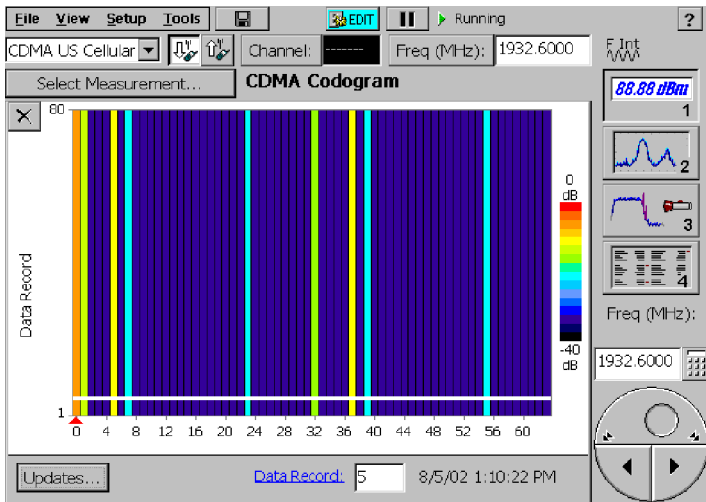

Figure 3-54: cdmaOne Codogram display
5. Tap **Codogram**. See Figure 3-54.